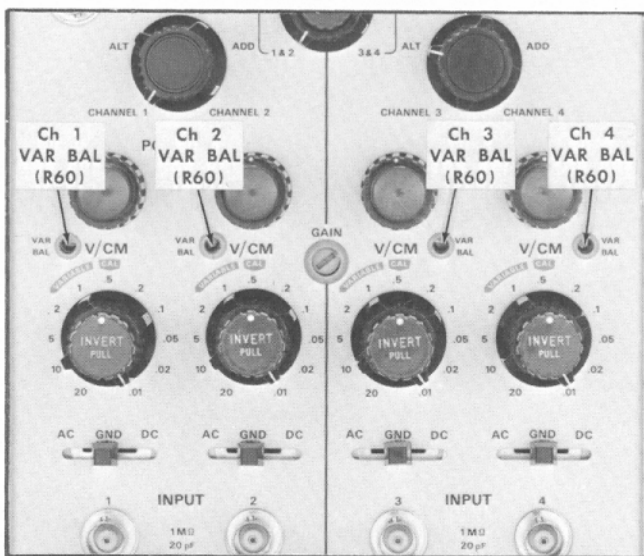

Fig. 7-8. Location of the VAR BAL adjustments.
If the trace is located off the screen, preadjust the Channel 1 VAR BAL control (see Fig. 7-8) to position the trace near the graticule center. The VAR BAL control is a 20-turn variable resistor that has no mechanical stops (uses a slip-clutch arrangement to prevent over-travel damage) for the adjusting screw. Clockwise rotation moves the trace upward
d. ADJUST—Channel 1 VAR BAL control (see Fig. 7-8) for no trace shift as the Channel 1 VARIABLE control is rotated back and forth through its range. Return the VARIABLE control to the CAL position.